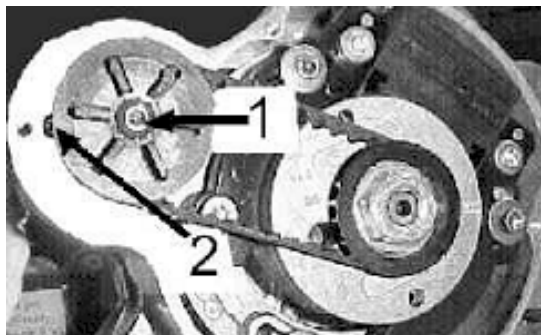

Figure 29
8. Remove bearing retainer screw using a 3mm hex key. (Figure 29 – item 2)